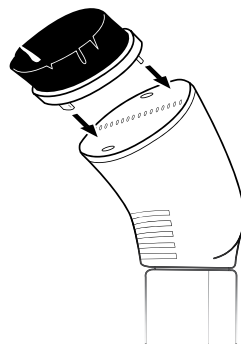

FIGURE 6
3. Press Fabric Brush firmly onto Steam Nozzle, until it fits snugly and firmly in place (FIGURE 6).